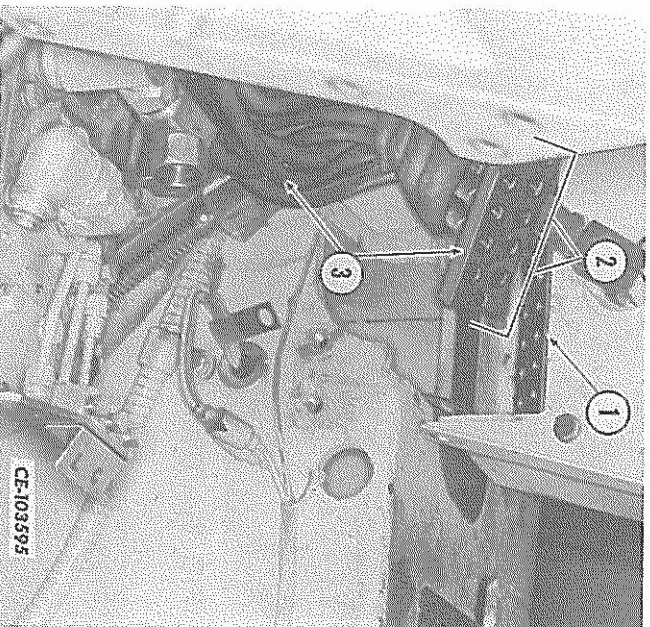

FIG. 9 – Removing the Transmission Hose and Manifold Assembly
14. Remove the hardware securing the transmission hose and manifold assembly (3, Fig. 9) to the pilot control valve tube manifold (1) in the tower. Position the assembly on the transmission at this time. Remove and discard the "O" rings (2) from the manifold counterbores.